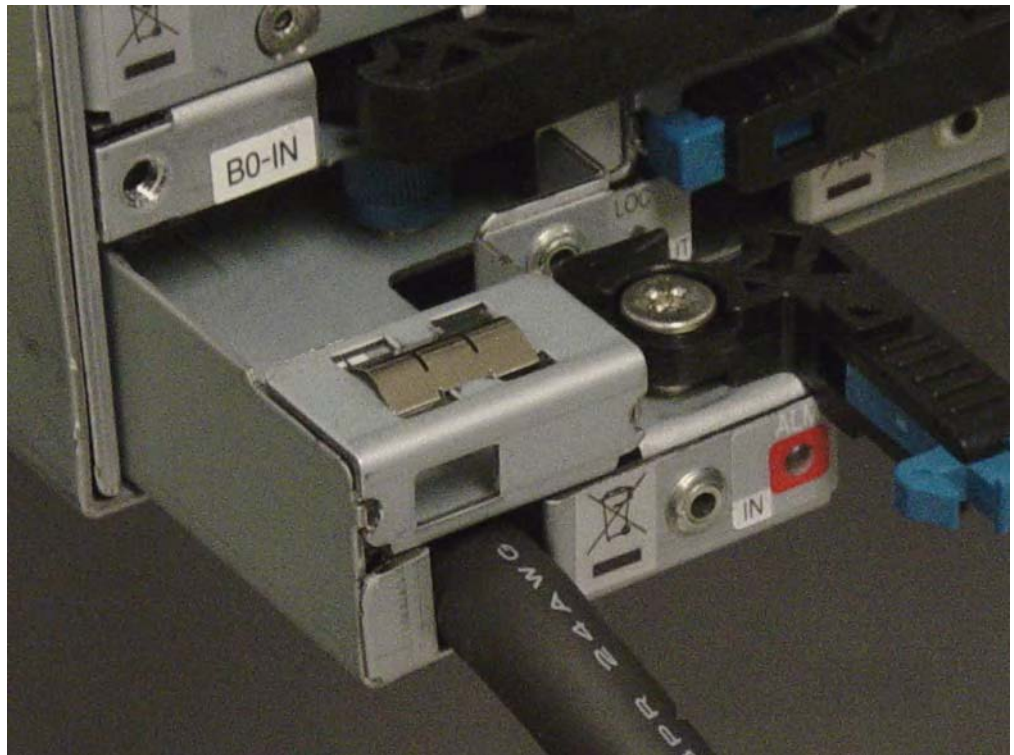

Figure 5-39: Connecting an ENC Cable to a High-density Expansion Unit
5. Open the lock lever on the ENC cable holder and slide the cable holder into the appropriate slot on the high-density expansion unit. See Figure 5-39.